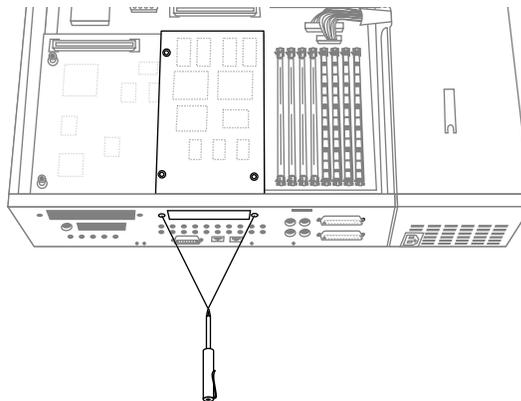

Figure 1-28 Inserting the Screws Through the Rear of the Workstation
3. Insert and tighten the two screws through the rear of the workstation, as shown in Figure 1-28. If the screw holes do not line up, the board may not be seated all the way, or one of the screws may be screwed down too tightly.